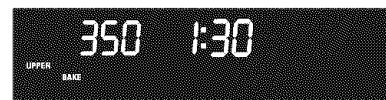

Figure 1
2. Press , "350" will appear, "UPPER" and "BAKE" will flash in the display (Figure 1).